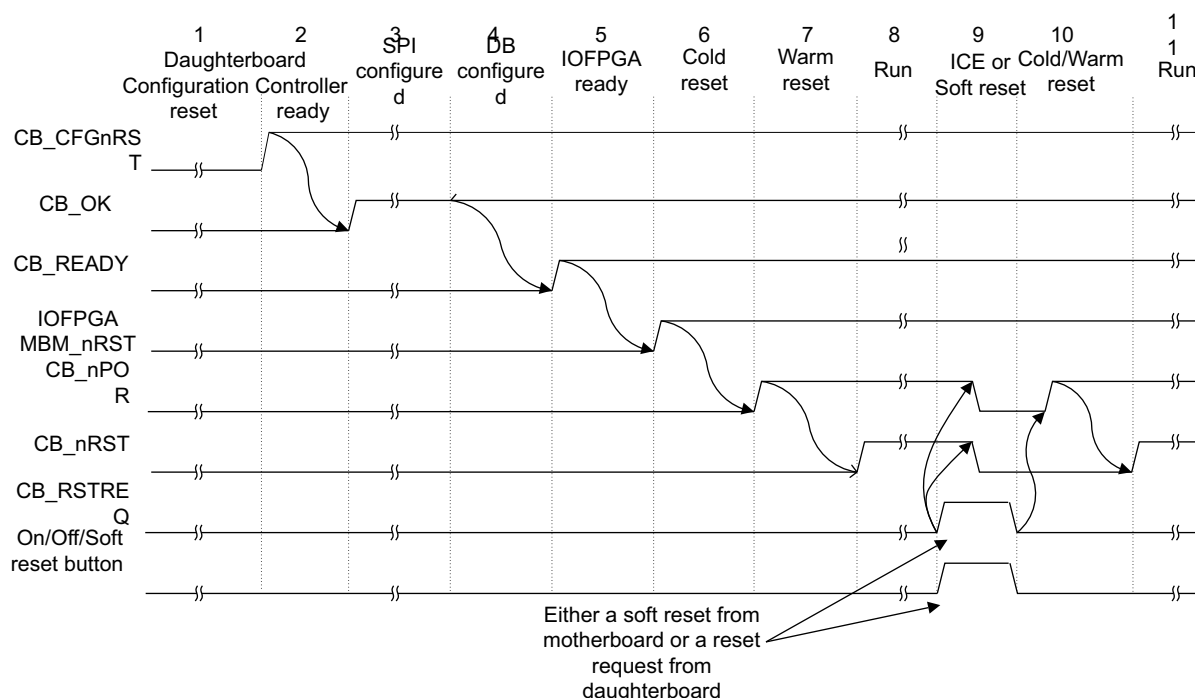

Figure 2-7 CoreTile Express A15x2 A7x3 daughterboard configuration and reset timing cycle
The numbers in Figure 2-6 represent stages in the reset and configuration process. See Figure 2-7 on page 2-15.
Figure 2-7 on page 2-15 shows the CoreTile Express A15x2 daughterboard power-up configuration and reset timing cycle.
a. Figure 2-7 on page 2-15 does not include these signals.